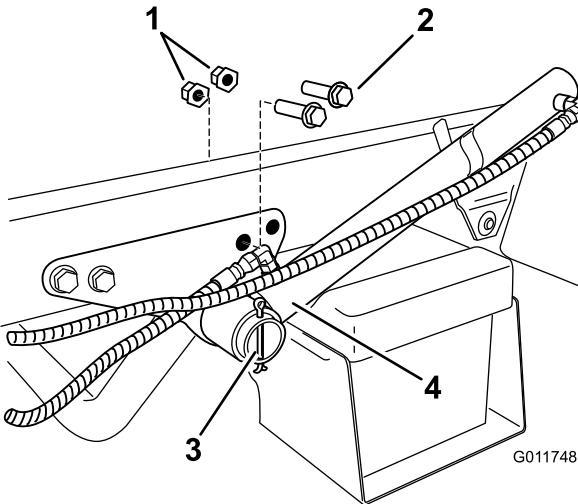

Figure 7
1. Locate and remove the 2 rear bolts and flange nuts on the lift cylinder bracket (Figure 7).